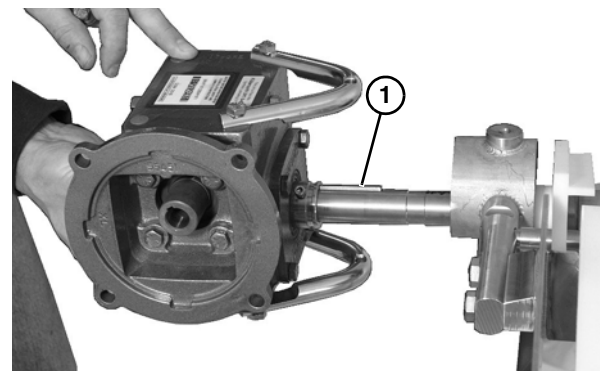

Figure 57
6. Slide assembly off the bearing spindle (**Figure 57**). Remove the key (**Figure 57, item 1**).